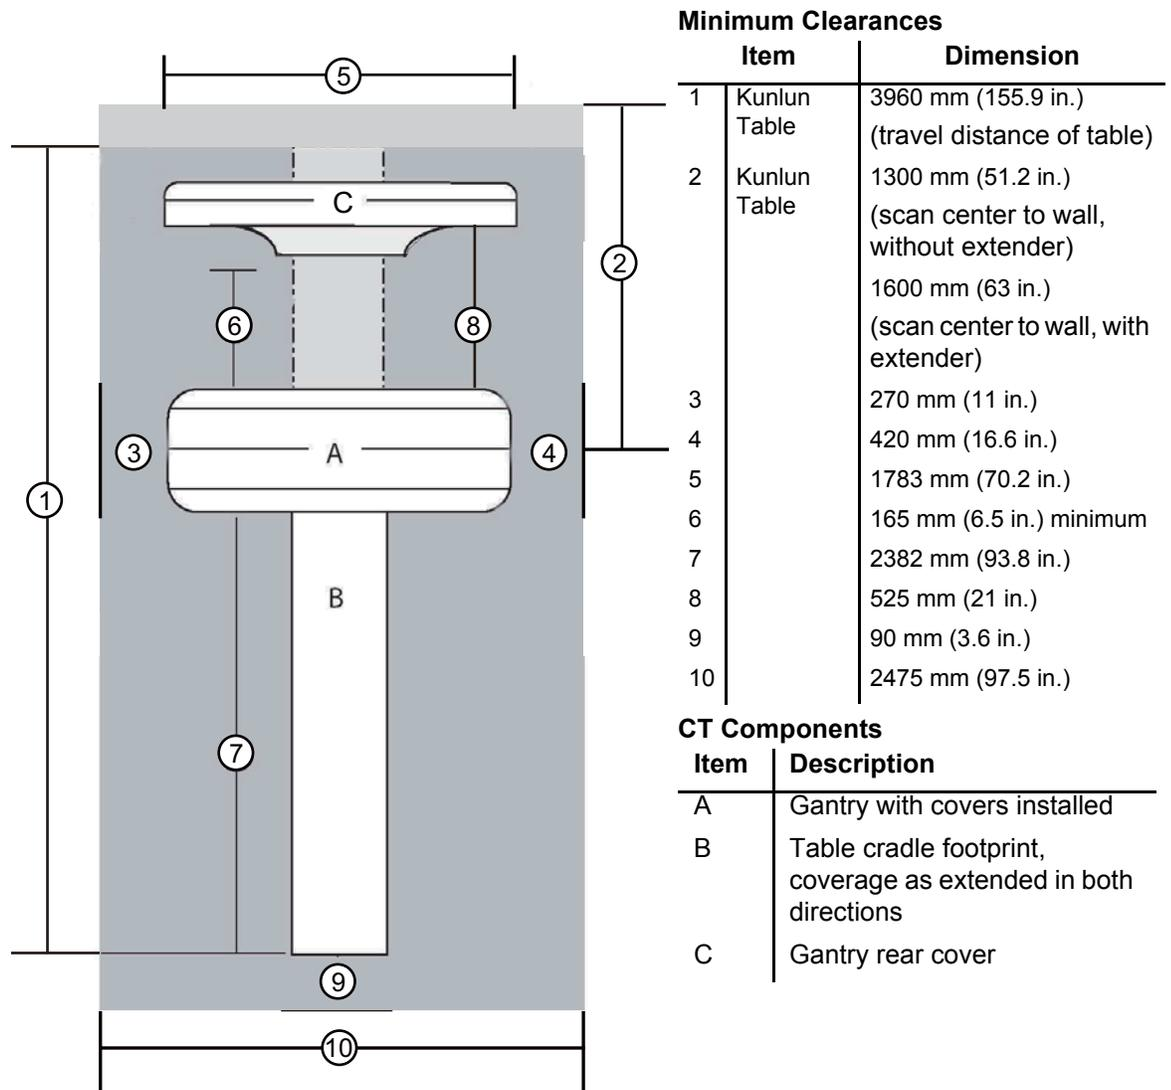

Figure 5-1 Minimum Service Clearances
Note: A similar map of detailed dimensional clearance measurements necessary for safe servicing of the system is provided in Figure 5-1, on page 49.
- Sufficient space to remove the covers Figure 5-1.
Note: When calculating service clearances, refer to Figure 5-1 for all service clearance needs.
- The gantry rear cover, with service dollies installed, requires a clearance width of 1790 mm (70.5 in.) and a depth of 914 mm (36 in.) for removal. Sufficient space to allow the service engineer to move the cover either straight back or to one side of the table to satisfy the minimum service clearances. The rear cover with dollies cannot extend past the allowable clearance space within the room (see Figure 5-1). If the system is not sited straight (it is positioned diagonally), full service space is still required. The PMI and customer should discuss this consideration and make the necessary provisions.